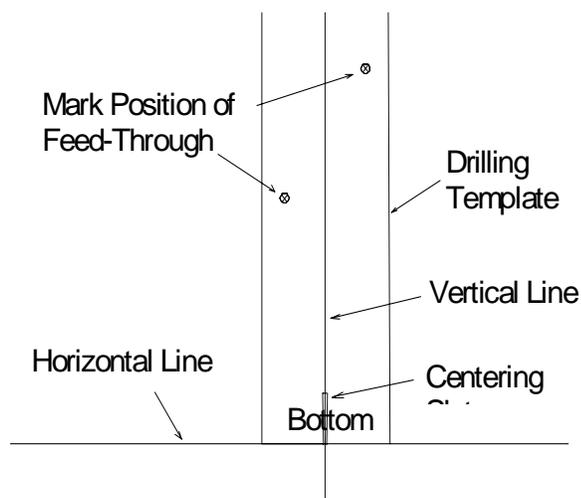

Figure 5
- 2.1 Lay template face up and centered (using centering slots) on first vertical line with the bottom edge along the horizontal line as shown in figure 5. [Cardboard drilling template included in each carton of PV shingles.]